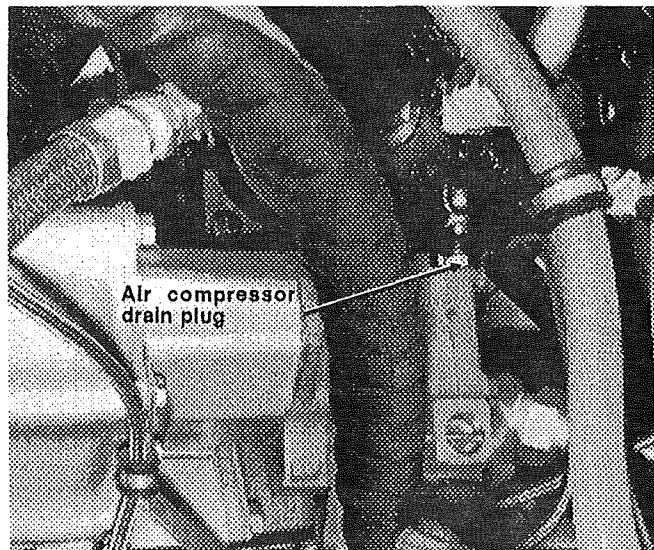

FIG. 15
11. Remove air compressor drain plug (see fig. 15).